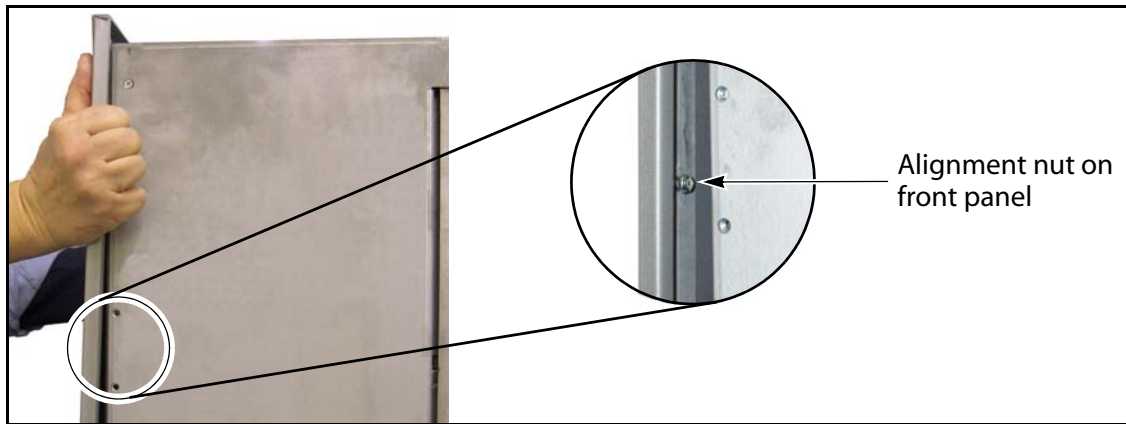

Figure 2-3 Removing the front panel.
5. Lift the front panel outward and away from the chassis to disengage the two nuts on the back of the front panel (Figure 2-3) from the holes on either side of the chassis. Set the cover aside.
- c. Fit the alignment pin on the top edge of the panel and the two nuts extending from the back of the front panel (see Figure 2-3 on page 14) into the corresponding holes on the top and side edges of the chassis.